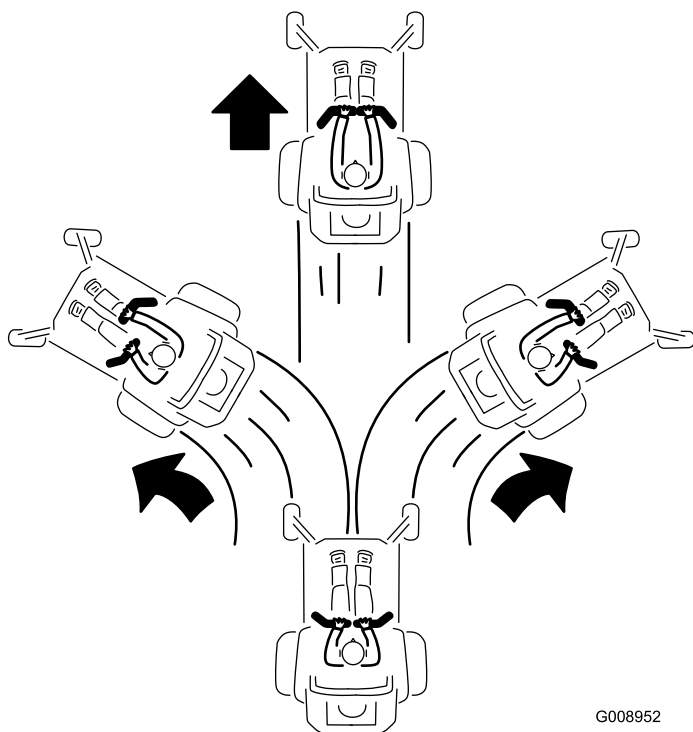

Figure 25
3. To go forward, slowly push the motion-control levers forward (Figure 25).